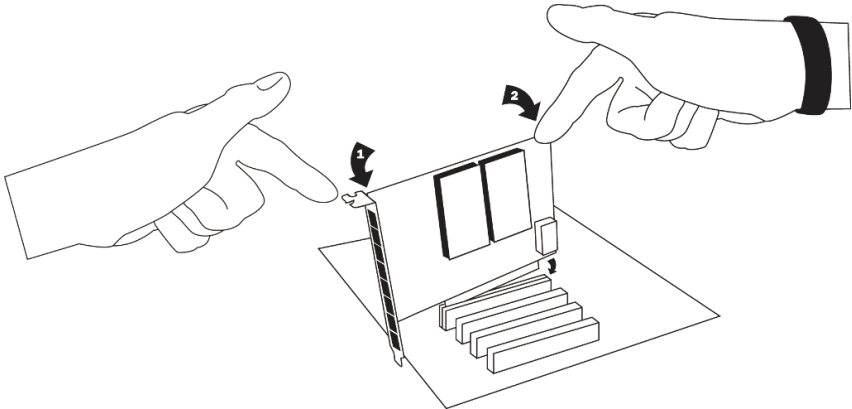

Figure 9: Insert the Card
3. Remove the bracket place holder and insert the card into a PCI (HA8) or PCI Express (HB8) slot. See Figure 9.